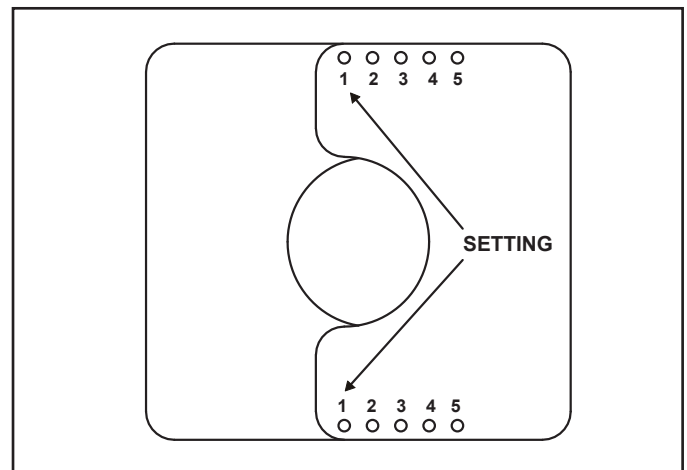

Figure 4.8 Setting the Exhaust Restrictor for MEZZO1300-AUB, MEZZO1300ST-AUB, MEZZO1600-AUB
2. The setting for MEZZO1300-AUB, MEZZO1300ST-AUB and MEZZO1600-AUB is 1-1. Align the holes marked “1” on the numbered exhaust restrictor piece with the hole on the other exhaust restrictor piece. See Figure 4.8. Center the exhaust restrictor on the vent and secure in place with two 1/2 in. (13 mm) self-piercing screws.